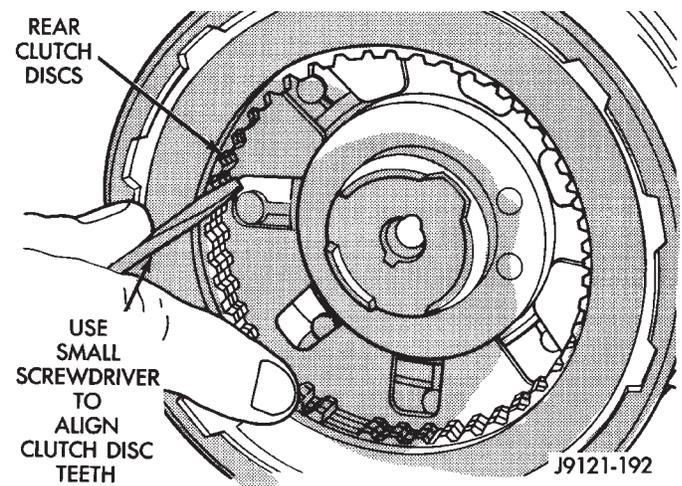
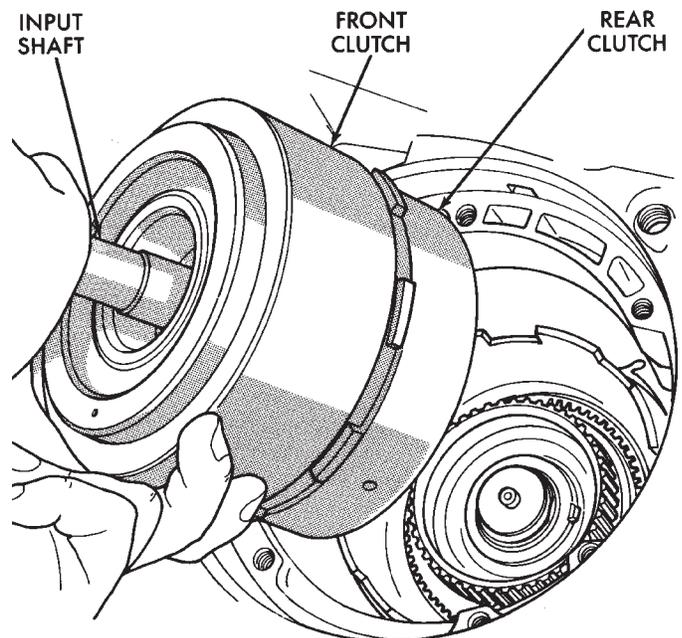

Fig. 144 Aligning Rear Clutch Disc Lugs
Fig. 145 Installing Front/Rear Clutch Assemblies
(15) Align drive teeth on rear clutch discs with small screwdriver (Fig. 144). This makes installation on front planetary easier.
(16) Raise front end of transmission upward as far as possible and support case with wood blocks. Front/rear clutch and oil pump assemblies are easier to install if transmission is as close to upright position as possible.
(17) Slide front band into case.
(18) Install front and rear clutch units as assembly (Fig. 145). Align rear clutch with front annulus gear and install assembly in driving shell. **Be sure output shaft thrust washer and thrust plate are not displaced during installation.**
(19) Carefully work assembled clutches back and forth to engage and seat rear clutch discs on front annulus gear. Also be sure front clutch drive lugs are fully engaged in slots of driving shell after installation.